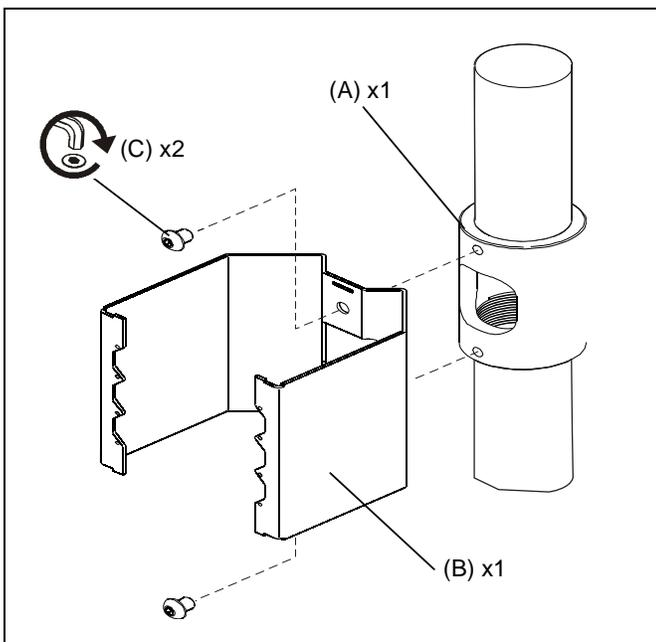

Figure 2
2. Secure mounting plate (B) to coupling using two button head cap screws(C). (See Figure 2)